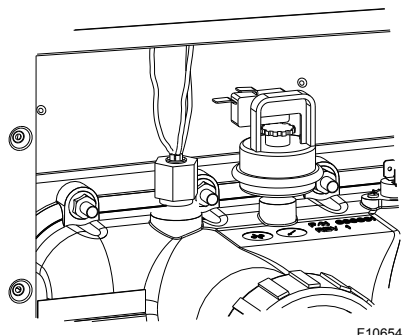

Figure 28. Thermostat Temperature Sensor Location
3. Remove the thermostat temperature sensor by loosening the compression fitting nut. Re-route the sensor to left side of the heater. See **Figure 28**.